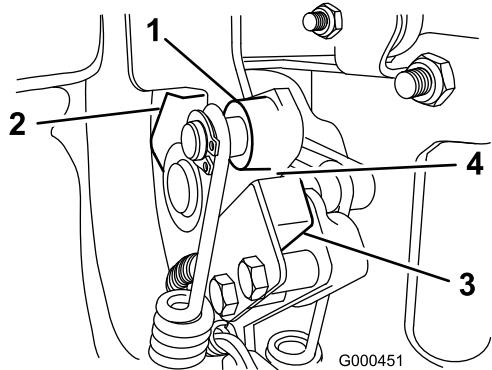

Figure 29
2. Engage traction lever until it contacts neutral stop (Figure 29).
3. Loosen interlock switch mounting fasteners (Figure 29).
4. Place a .032" thick shim between the traction lever and the interlock switch (Figure 29 ).